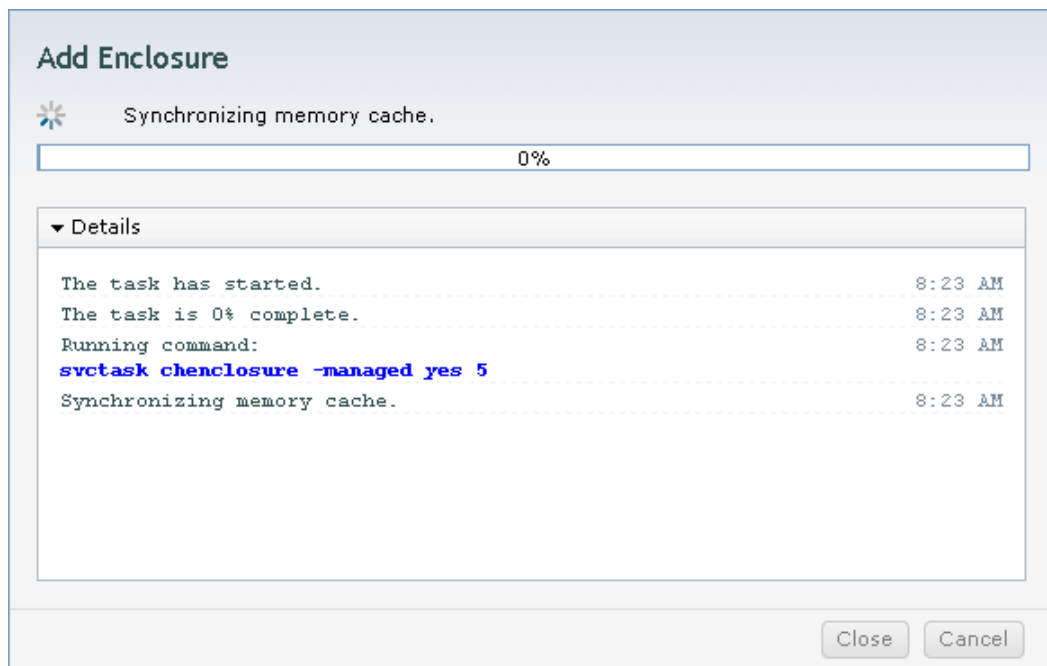

Figure 2-25 Managing new enclosure
6. The background “Add Enclosure” to manage new enclosure will display the screen shown in Figure 2-25 on page 50.